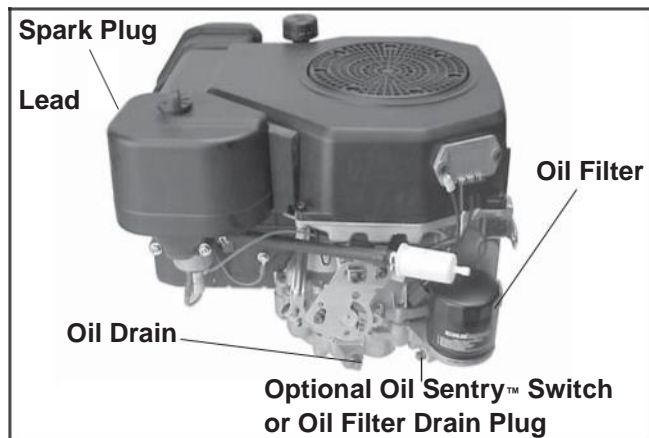

Figure 9-1. Removing Spark Plug Lead, Oil Drains, Oil Filter, and Oil Sentry™ Switch (oil filter drain plug not on all models).
1. Remove the oil drain plug and oil fill cap/dipstick. See Figure 9-1.
2. Unthread and remove the pressure switch from the oil filter adapter. See Figure 9-1.